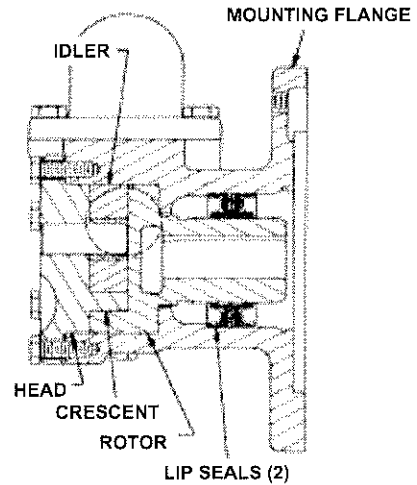

FIGURE 7
To Reassemble Model G75 or GG75 Lip Seal Pumps: (see Figure 7)
NOTE: Use an arbor press with an arbor of 2.188 diameter and press the lip seals in the casing as far as they will go. See figures 7, 8, 9, and 10 for a cross section of your pump models.
6. THE HEAD CAN NOW BE ASSEMBLED ON THE PUMP. Tilt the top of the head away from the pump slightly until the crescent enters the inside diameter of the rotor and rotate the idler until its teeth mesh with the rotor teeth. Do not damage the head gaskets. Note correct position of idler and crescent (See figure 7 and Disassembly step 2). Tighten the head capscrews and then check the end clearance.